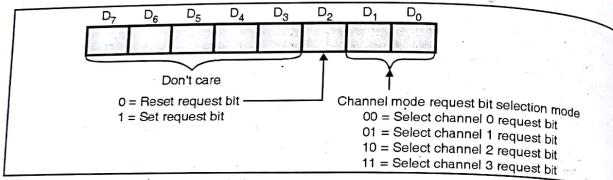

Fig. 17.5.6 : Request register
(7) Request register
- The format of request register is as shown in Fig. 17.5.6.